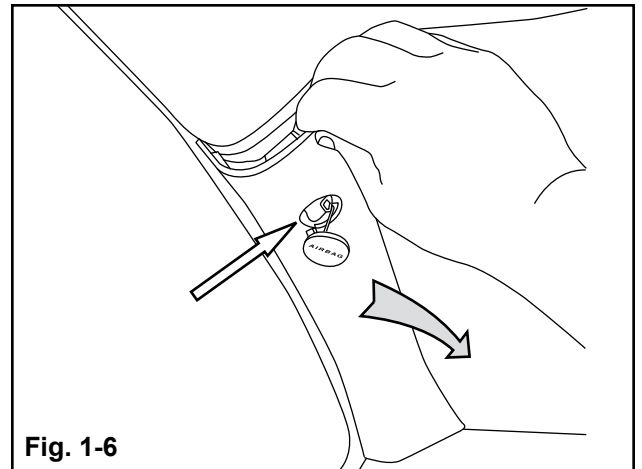

Fig. 1-6
- b) Pull top of A-pillar trim towards passenger-side of vehicle. Once clips are released, pull trim upwards towards roof of vehicle to remove trim. **(Fig. 1-6)**